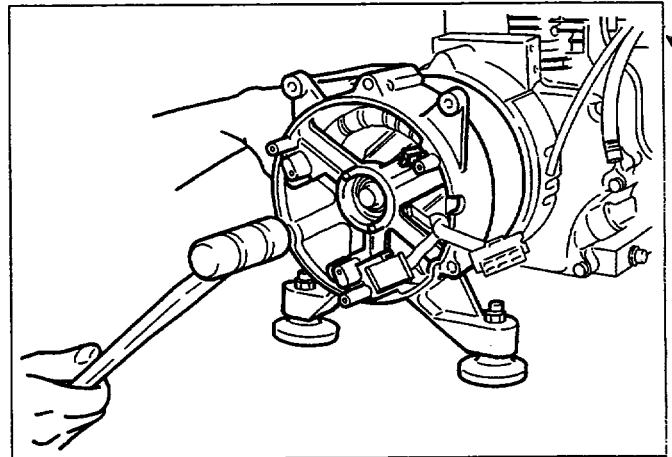

Fig. 10-31
- (1) Holding the rear bracket and stator, fit them to the front bracket. Match the mounting hole of the rear bracket and that of the rotor bearing, and softly strike the outside periphery of the rear bracket with a plastic hammer. (See Fig. 10-31.)
- (2) Attach the stator cover around the stator.